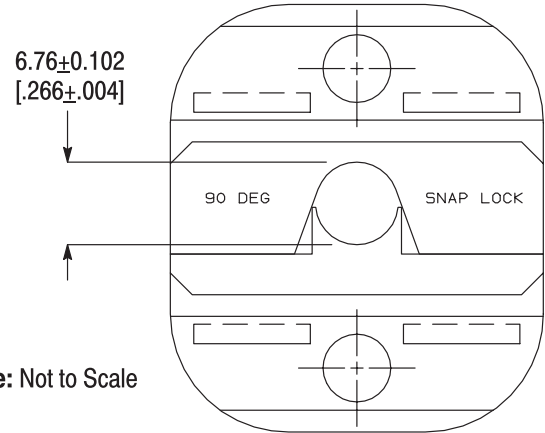

Figure 4
The die assembly will perform correctly as long as: (1) the product is correct for the die assembly, (2) the tool has been adjusted correctly, and (3) the die opening is correct. Refer to Figure 4.